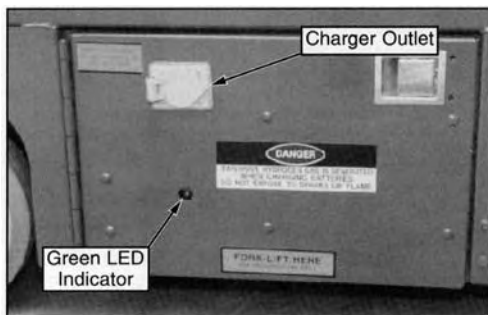

Figure 4: Chassis Module, Right Side
- 2) Plug extension cord into outlet at the left side of the chassis (figure 4) and connect extension cord to properly grounded outlet of proper voltage and frequency.